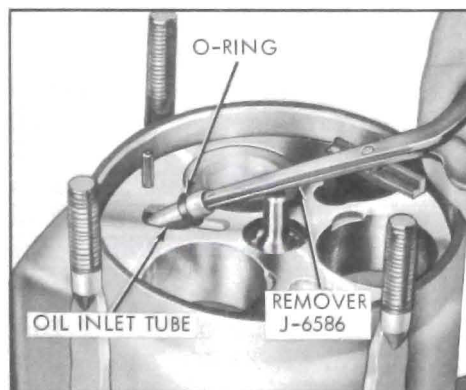

Figure 11-63—Removing Oil Inlet Tube
1. Remove oil inlet tube, using J-6586 Remover. See Figure 11-63. If tube O-ring did not come out with tube, remove it from cylinder with small wire.